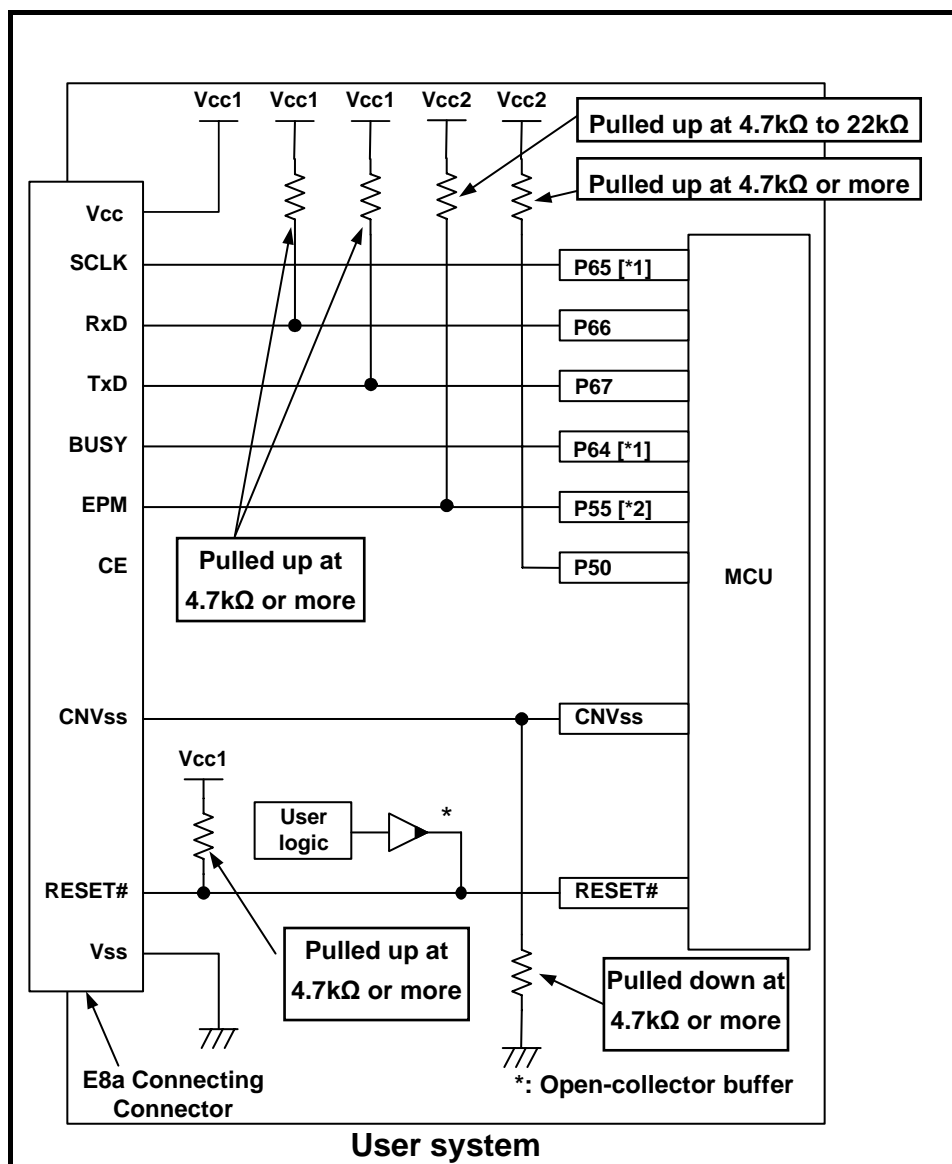

Figure 4.4 Example of an E8a Connection
- Dual power supply and memory expansion mode (R32C/111 (100-pin) only): See Figure 4.4.